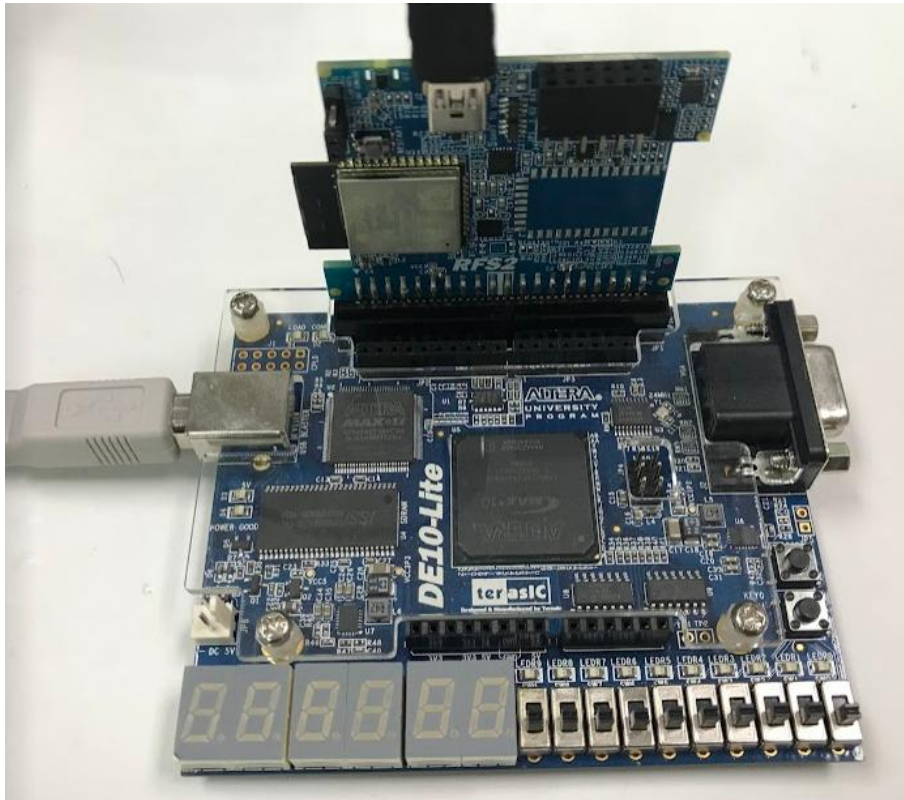

Figure 3-34 Setup RFS2 on DE10-Lite
1. Install RFS2 on DE10-Lite, as show in Figure 3-34.